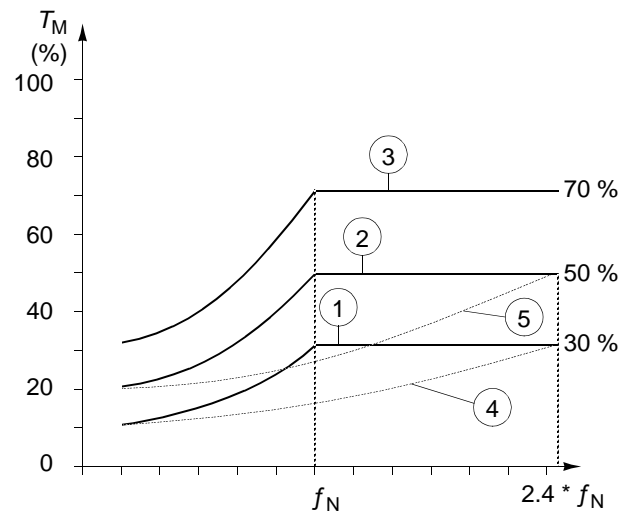

Figure 6-21 Underload curve types. T_M nominal torque of the motor, f_N nominal frequency of the motor.
30.15 UNDERLOAD CURVE This parameter provides five selectable curves shown in Figure 6-21. If the load drops below the set curve for longer than the time set by Parameter 30.14 UNDERLOAD TIME, the underload protection is activated. Curves 1 ... 3 reach maximum at the motor rated frequency set by Parameter 99.07 MOTOR NOM FREQUENCY.